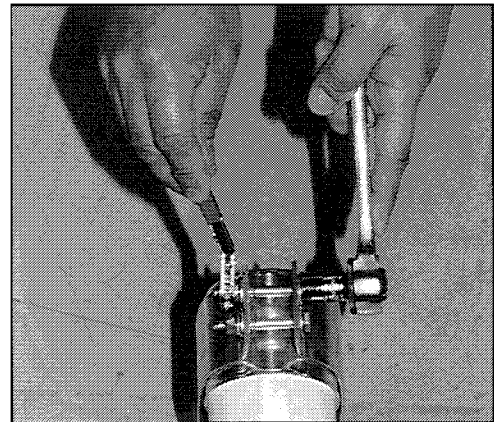

Fig. 53 Fuse Clips
- Check the torque on the bolts which clamp the fuse clips to the fuse ferrules (Fig. 53). The proper torque is 4-6 lb-ft.